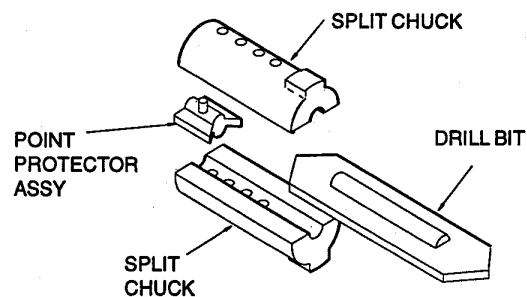

Figure 1. Installing a Drill Bit.
4. Install the appropriate drill bit into the two halves of the split chuck. Make sure the beaded portion of the drill bit engages the center slot in each of the chuck halves (figure 1).